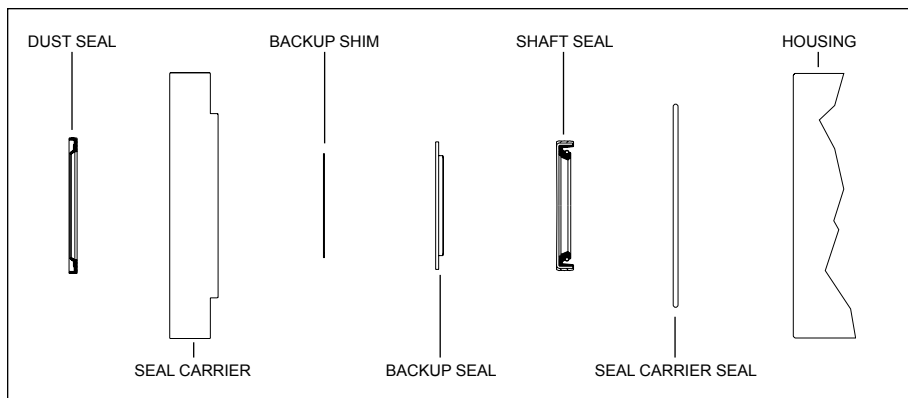

FIGURE 1
- B)** Secure housing (11) in a vise with the output shaft (22) facing up. Loosen and remove the nine seal carrier bolts (26) and nine seal carrier bolt washers (25) and lay aside. Place 2 of the seal carrier bolts (26) into the jack screw holes in the seal carrier (24) and tighten evenly to lift seal carrier (24) off housing (11) and shaft (22). Remove the seal carrier seal (5) out of the groove in the housing (11) and discard seal. Be careful to leave the shaft (22) in the motor to not disturb the internal housing bearings (12 & 14).
- C)** If thrust washer (9) or thrust bearing (10) came out when removing the seal carrier (24), replace them back in housing (11) on top of the shaft (22) with the thrust bearing resting on the shaft and the thrust washer on top of the thrust bearing.
- D)** Carefully remove dust seal (1) from the outer bore of the seal carrier (24) and discard seal. Carefully remove the shaft seal (4), backup seal (3) and backup shim (2) from the inner bore of the seal carrier (24) and discard all seals.
- F)** Install a new seal carrier seal (5) in groove in housing (11). Place the seal carrier (24) on a clean flat surface with the countersunk bolt holes facing up. Install a new dust seal (1) in the groove in the seal carrier with the lip facing up. Press seal evenly into groove until seated.
- G)** Turn the seal carrier over install the new backup shim (2), followed by the backup seal (3) and finally the shaft seal (4). Press the shaft seal evenly until seated in the seal carrier (24). Refer to Figure 1 for proper direction and orientation of the seal carrier components.
- H)** Place the seal carrier (24) over the shaft (23) and onto housing (11) lining up the bolt holes and making sure the dust seal is facing up. Extra caution should be used to minimize contact of the shaft seal with the slotted keyway in the shaft. Place the nine washers (25) into the seal carrier followed by the nine bolts (26).
- I)** Using a criss-cross pattern evenly tighten the seal carrier bolts (26). Final torque bolts to 17-21 Nm [150-185 lb-in]. If servicing the entire unit, continue to Step I.